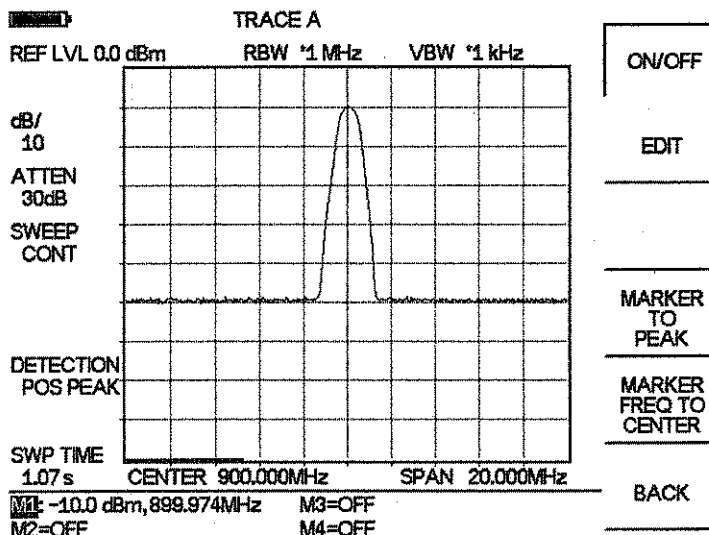

Figure 2-8. Activated Normal Marker
The marker reads both the frequency and the amplitude, and it displays these values in the message area at the bottom of the display. In this case, the marker will read 900 MHz and -10.00 dBm, as shown in Figure 2-8.
- Step 5. Read both frequency and the amplitude values identified by the selected marker. These values are displayed in the message area at the bottom of the display (Figure 2-8).